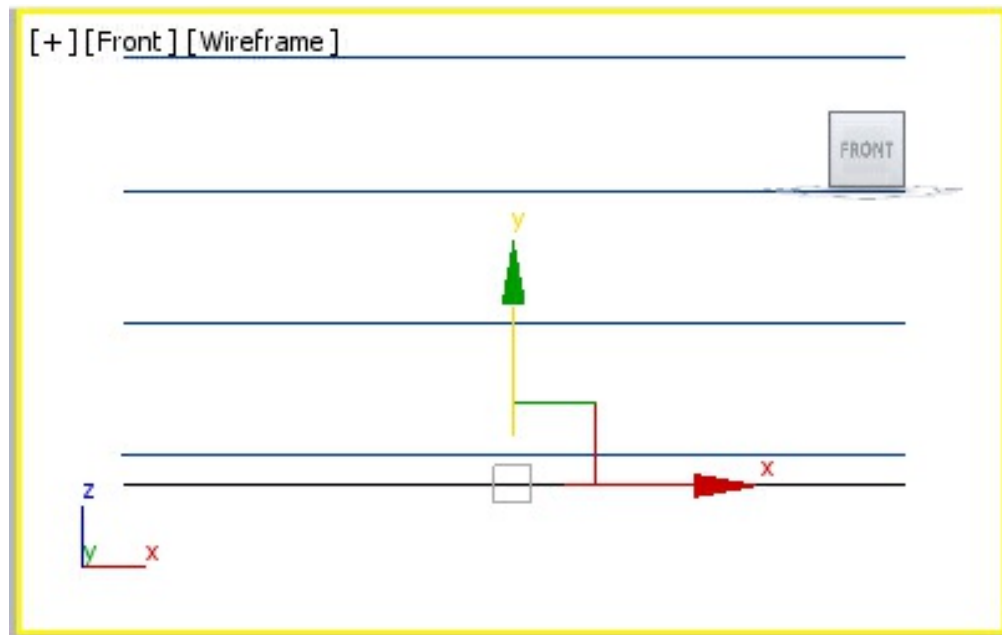

Figure 10-87 The Circle001 spline moved vertically
9. Select *Circle001* that is placed at the bottom in the viewport and right-click on the **Select and Move** tool; the **Move Transform Type-In** dialog box is displayed. In the **Offset:Screen** area, set the value **13** in the **Y** spinner and press the ENTER key; *Circle001* moves in the vertical direction, as shown in Figure 10-87.